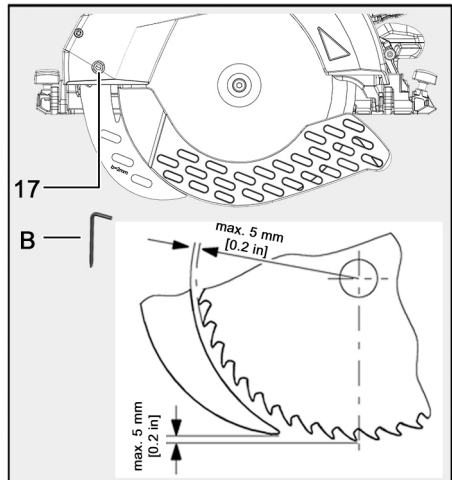

Fig. 13: Distance riving knife to saw blade
2. Using the Allen key (B) provided, turn the screw (17) **counterclockwise** to adjust.
- Do not exceed the maximum distance to the saw blade (see Fig. 13).
4. Using the Allen key (B), turn the flange screw (17) **clockwise** to tighten it.